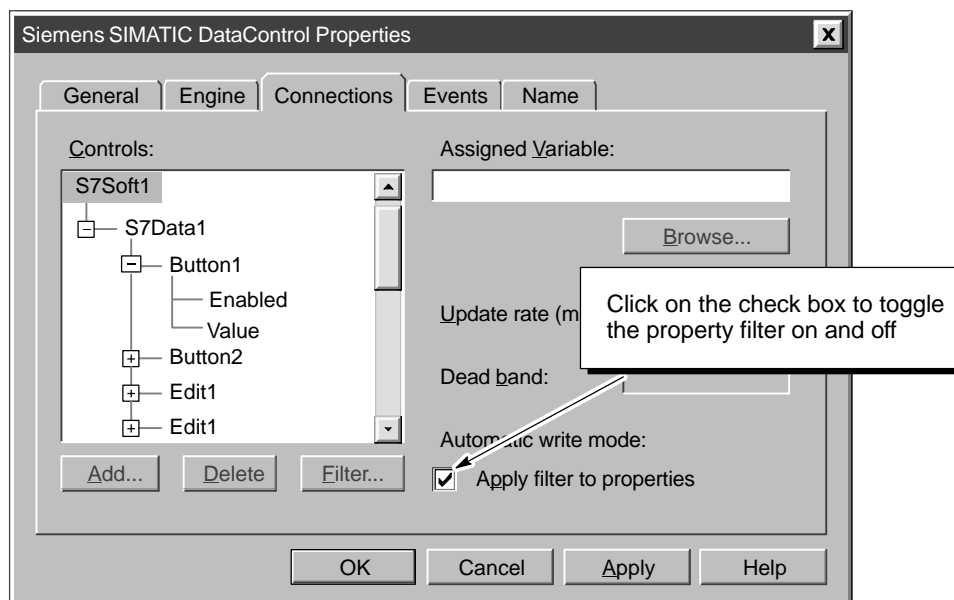

Figure 1-8 Applying the Filter to the Property List
6. As shown in Figure 1-8, select the “Apply filter to properties” check box to display only the properties listed in the filter. You can use the “Apply filter to properties” check box to toggle the filter on and off.